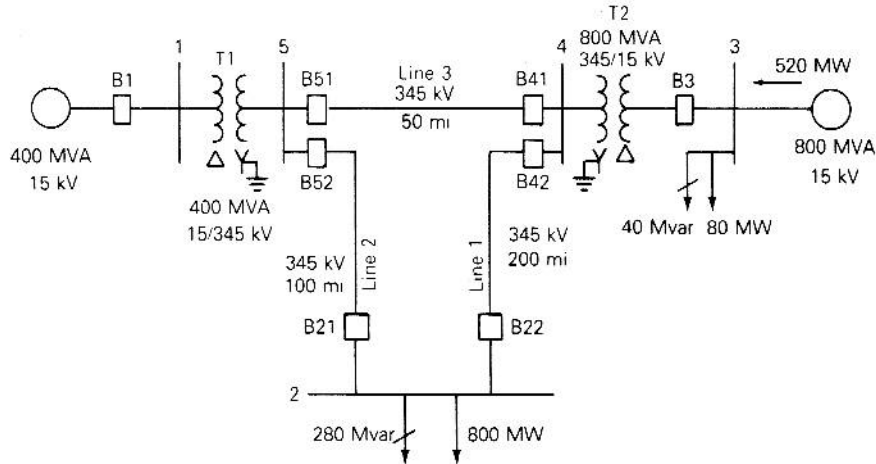

Figure 1. Single-line diagram of a five-bus system.
Figure 1 shows a single-line diagram of a five-bus power system. Input data are given in Tables 1, 2, and 3. As shown in Table 1, bus 1 is the swing bus, to which a generator is connected. Bus 3 is a voltage-controlled bus, to which a generator and a load are connected. Buses 2, 4, and 5 are load buses.
2. Enter the input data for the system components, given in the example. **Initially set transformer taps to 1.0** and run the power flow program for the power system, once using the Gauss-Seidel iteration algorithm and once using the Newton-Raphson (NR) algorithm. Compare the results of the above two cases and see if you can find the number of iterations in each case to find the solution.
3. Develop your own program to implement the NR algorithm using any language you prefer (C/C++, Matlab, Fortran, etc). Use your program to solve the power flow of the system in Figure 1. Compare your result with the one obtained from PowerWorld Simulator.